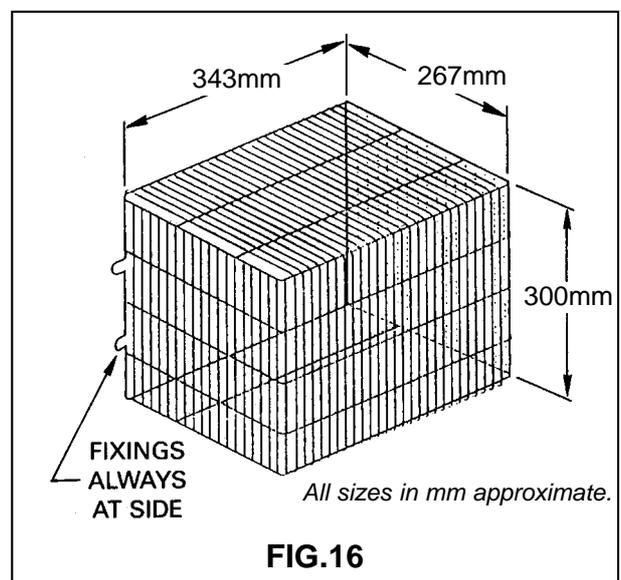

FIG.17 CIRCULAR BALANCED FLUE KITS 2350 & 2351
ASSEMBLY METHOD (Figs. 17 to 19)
2. Remove the four nuts on top of the boiler and remove the flue socket, leaving the gasket (**item 8. Fig. 17**) in position.